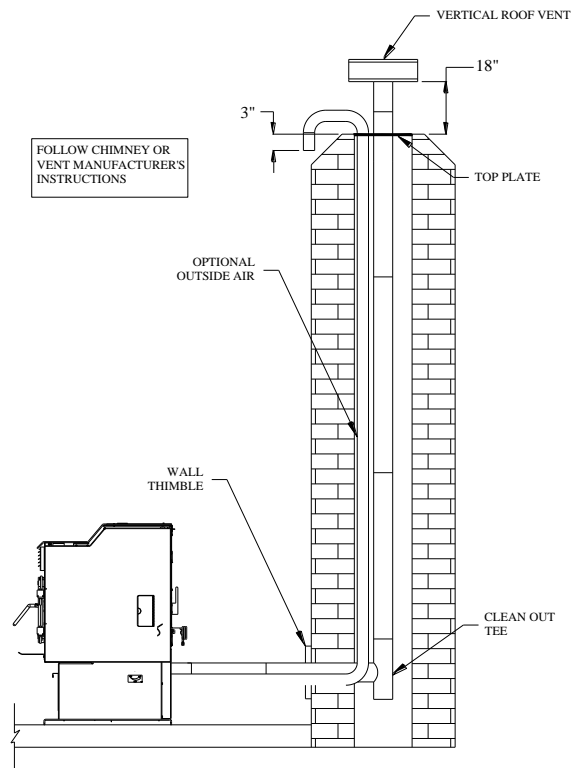

Figure 13
4. Install the tee on the bottom of the vertical pipe system and lower it down the chimney until the centre branch of the tee is level with the centre of the hole in the masonry, as shown in Figure 13.